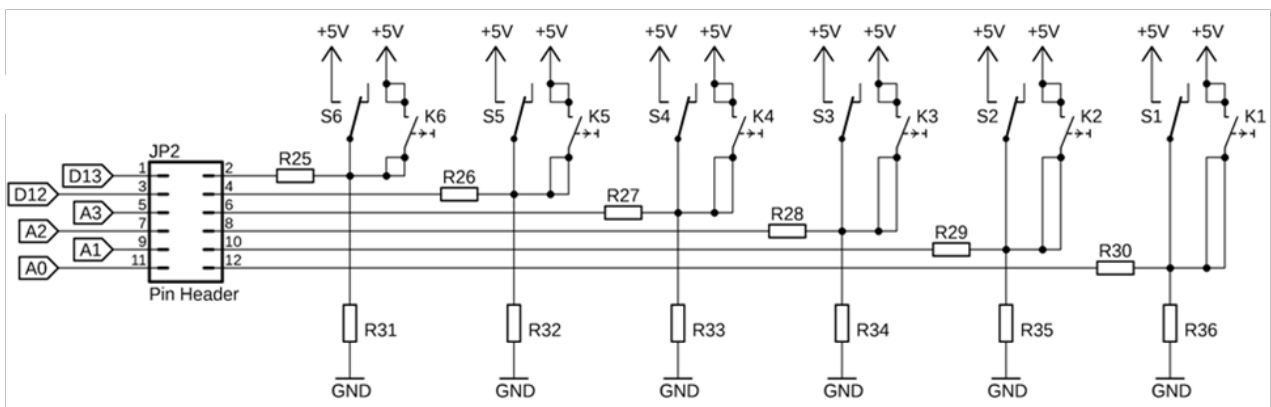

Figure 7: The wiring of the slide / pushbutton switches S1 ... S6 / K1 ... K6
The MCCAB Training Board provides the user with six pushbuttons and six-slide switches for his exercises (arrows (20) and (19) in Figure 1). Figure 7 shows their wiring.
Each pin of the pin header JP2 can be connected to its assigned input A0 ... A3, D12 or D13 of the Arduino® NANO microcontroller module via a jumper. The assignment is shown in Figure 7.